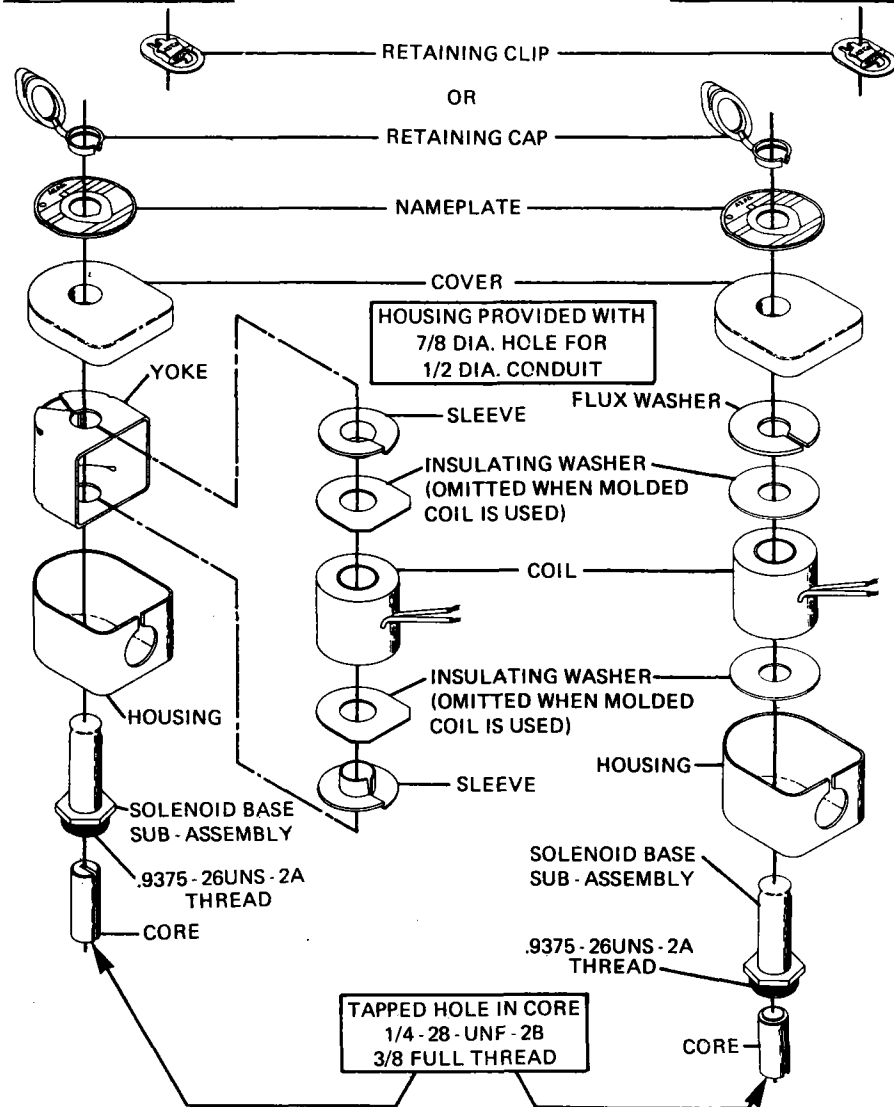

Figure 1.
Catalog Numbers 80171 and 80172 General Purpose Solenoid Enclosure. (Refer to Figure 1)
3. Coil is now accessible for replacement. Reassemble in reverse order of disassembly paying careful attention to exploded views provided in Figure 1.